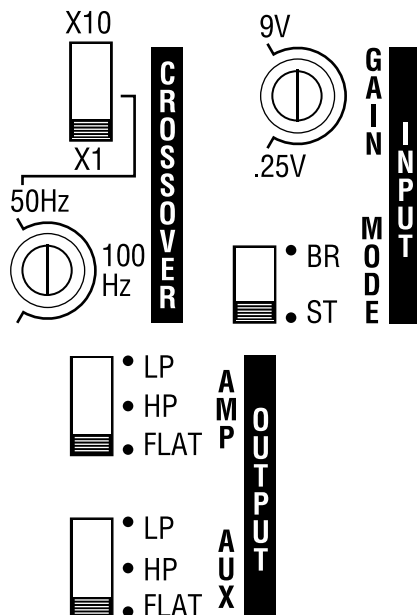

Figure 8. Kappa 52a controls for crossover, input, and output.
IMPORTANT: If you plan to use the Kappa 52a to drive full-range speakers, set both AMP and AUX filters to FLAT (refer to Figure 1 on page 3 and Figure 8 below) and skip to the next section, "Setting Input Sensitivity".
1. Set the CROSSOVER control to the frequency recommended by speaker manufacturer (refer to Figure 8). If the value is unknown, set the control midway. If needed, adjust the X1/X10 switch to obtain the proper value.
2. Depending on your system plan, set the AMP and AUX switches to LP (low-pass), HP (high-pass), or FLAT (refer to Figure 8).
Initially, turn the input sensitivity GAIN control to its minimum (counter-clockwise) position (refer to Figure 8).